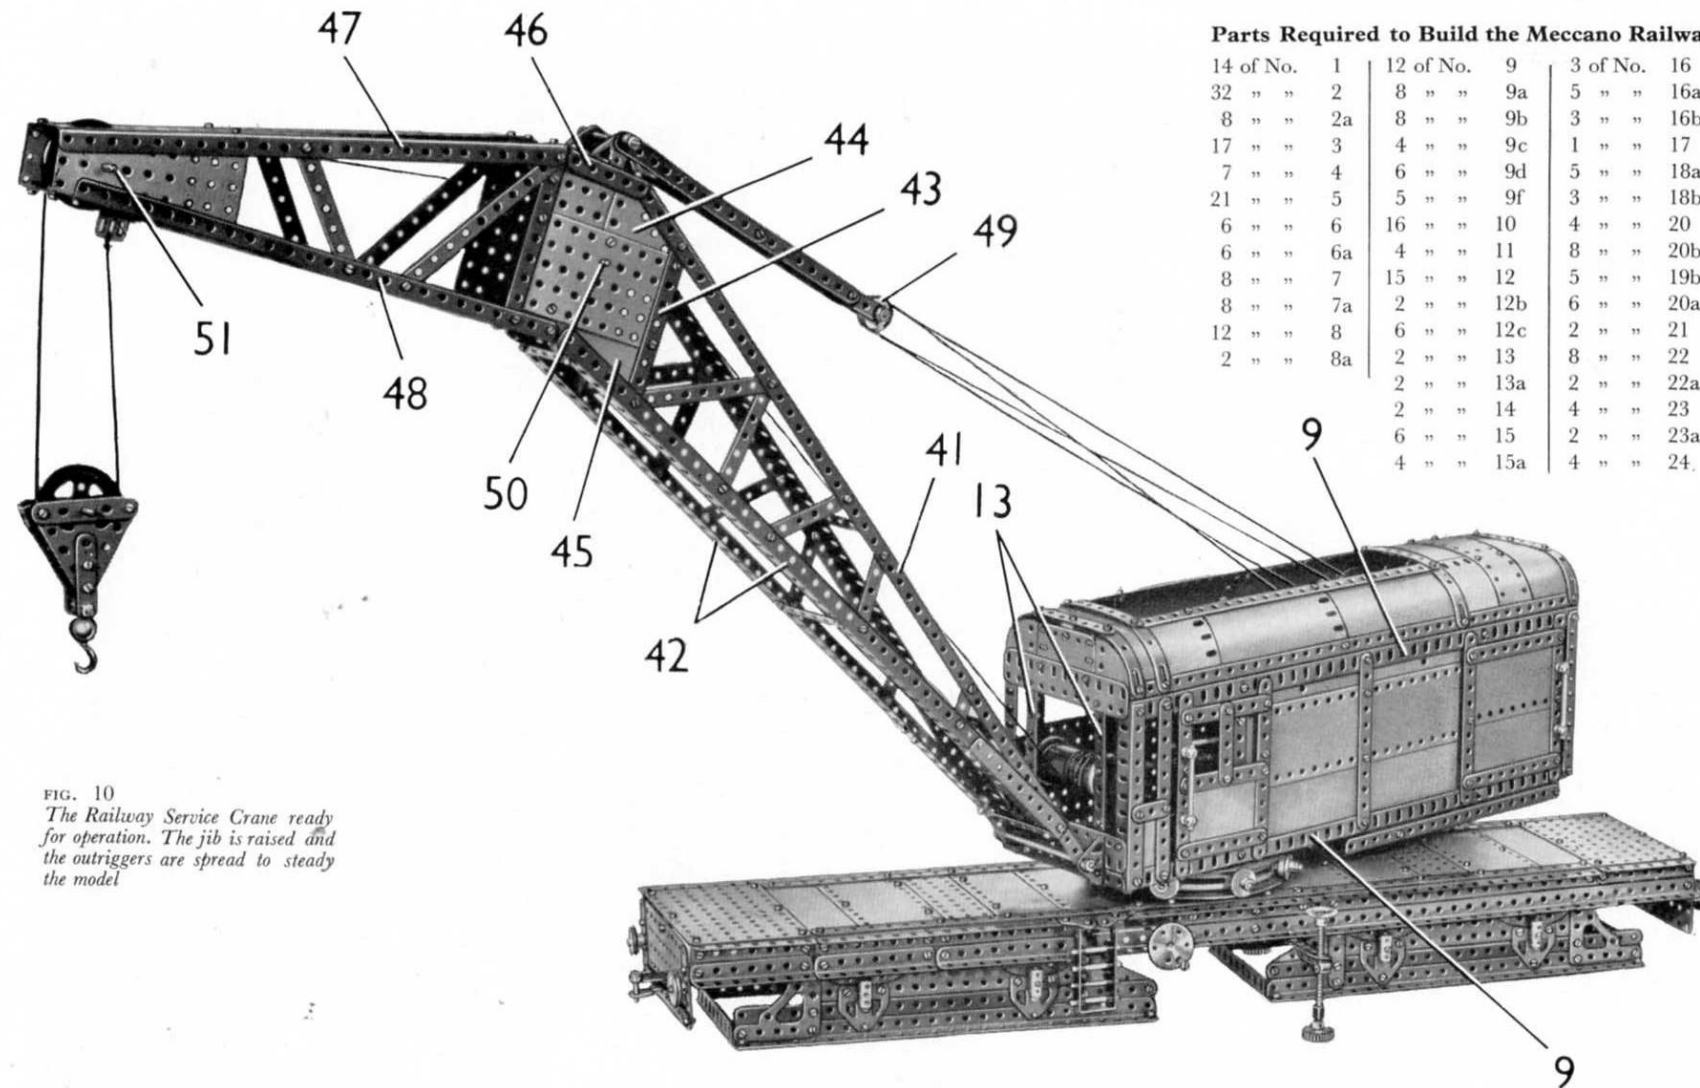

FIG. 10
The side seen in Fig. 10 is built up on a framework formed by two $18\frac{1}{2}$ " Angle Girders (9) joined at each end by a $5\frac{1}{2}$ " Angle Girder. The side is partly filled in by four $5\frac{1}{2}$ " \times $2\frac{1}{2}$ " Flexible Plates and two $5\frac{1}{2}$ " \times $1\frac{1}{2}$ " Flexible Plates attached to three $5\frac{1}{2}$ " Strips, which are bolted to the Girders (9). The Plates are spaced from the Strips by Washers however, so that the sliding doors can pass freely in front of the Plates. At the front end of this side a $2\frac{1}{2}$ " \times $1\frac{1}{2}$ " Flexible Plate is bolted to the $5\frac{1}{2}$ " Angle Girder, and it is edged by a $1\frac{1}{2}$ " and a $5\frac{1}{2}$ " Strip.
The sides are connected at front and back by two $5\frac{1}{2}$ " Angle Girders bolted to the ends of the Girders (9). A $5\frac{1}{2}$ " Flat Girder is fixed to the top $5\frac{1}{2}$ " Angle Girder at each end, and to this are bolted a $2\frac{1}{2}$ " \times $1\frac{1}{2}$ " Flexible Plate and two Semi-Circular Plates. Another $5\frac{1}{2}$ " Flat Girder is fixed to the lower part of the front of the cab and two $5\frac{1}{2}$ " Strips (13) are bolted in position (Fig. 10). The back of the cab is filled in by a $5\frac{1}{2}$ " \times $1\frac{1}{2}$ " Flexible Plate and two $5\frac{1}{2}$ " \times $2\frac{1}{2}$ " Flexible Plates.
Details of the Jib (Fig. 10)
The upper side members of the inner section of the jib each consist of a $24\frac{1}{2}"$ Angle Girder (41) (Fig. 10)—the lower members of this section are built-up girders (42) and are each made from an $18\frac{1}{2}"$ Angle Girder and a $4\frac{1}{2}"$ Angle Girder overlapped two holes. These parts are bolted together at their lower ends, and are connected at their upper ends by a $4\frac{1}{2}"$ Strip (43). A $4\frac{1}{2}" \times 2\frac{1}{2}"$ Flat Plate, a $3" \times 1\frac{1}{2}"$ Flat Plate, a $2\frac{1}{2}" \times 2"$ Triangular Flexible Plate (44) and a $3\frac{1}{2}" \times 2"$ Triangular Flexible Plate (45) are bolted together and are fixed to the Strip (43).